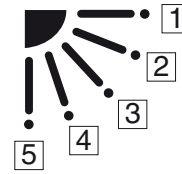

Fig. 7-11
* Setting data "**YYYY**" (refer to Fig. 7-11)
When the flap position is set to **4** or **5** and the unit is in the cooling or dry mode, the flap position is moved to **3** and the operation is started. (refer to Fig. 7-11)
At this time, the unselected flaps are moved to the position **1**. (refer to Fig. 7-11)